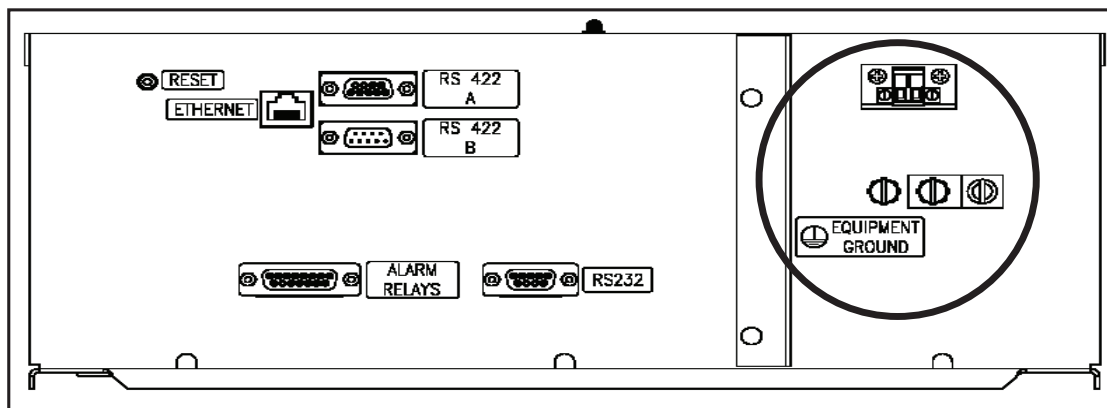

FIGURE 5. Base of NEMA enclosure.
- At this time, connect the power and ground wires to their respective terminal lugs inside the enclosure. Refer to Figure 5. Once the power and ground wires have been connected securely inside the enclosure, seal the access hole so that no ambient air can get inside the enclosure. If desired, first seal the hole and then connect the wires.